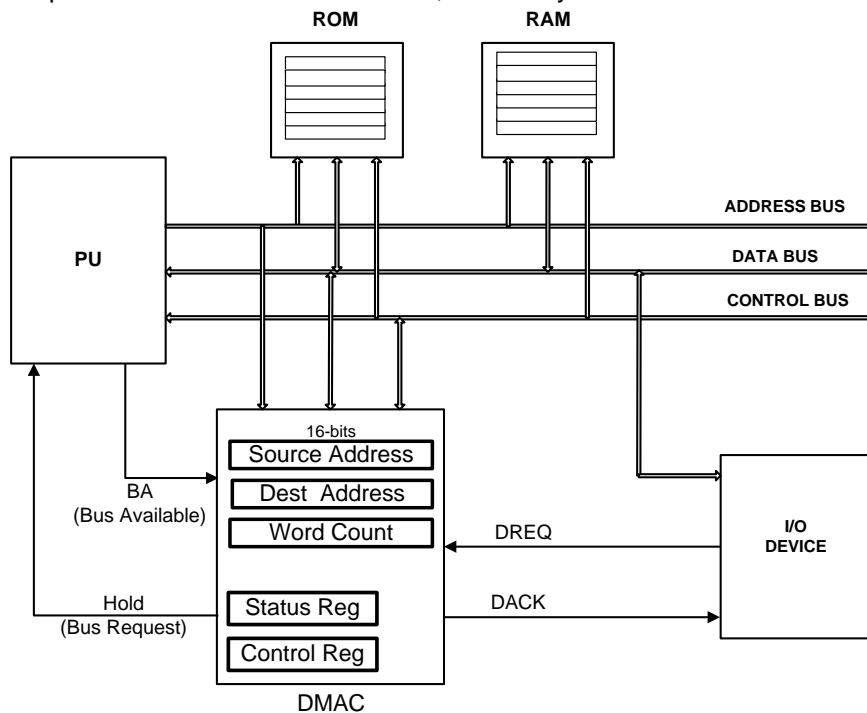

Figure 12. A Direct Memory Access Interface.
A DMA system interface employs a Direct Memory Access Controller (DMAC) to take control of data transfers. The system processor (PU) is effectively 'put to sleep' while the data transfer takes place and then 'reawakened' when the transfer has completed. Figure 12 shows a basic DMA interface with the DMAC set to manage data transfers between the external I/O device, for example an ADC or a network interface, and the system RAM.
The most basic form of DMA transfer, the one described above, is a '**Block Mode**' data transfer. It is appropriate when characteristic of the data to be transferred is bursts, for example, data from a disk drive, or data packets arriving over a network, or high-speed data ADC sampling. With reference to Figure 12 a typical DMA data transfer sequence would be implemented as follows:
In cycle stealing DMA transfer, the same hardware setup as in Figure 12 is used, but the data transfers are implemented as frequent single cycle transfers which are interspersed with normal processor bus read and write cycles. Typically, single word transfers are interspersed with instruction fetch execute cycles. The DMAC grabs a clock cycle to implement a single word transfer and then returns control to the processor - in effect the DMAC steals a cycle from the processor.
- System DMA, which is similar to the architecture described in Figure 12, uses a separate DMA controller to centralise the management and control of DMA transfers. This technique has fallen out-of-favour in PC systems but is still widely used in many embedded system architectures